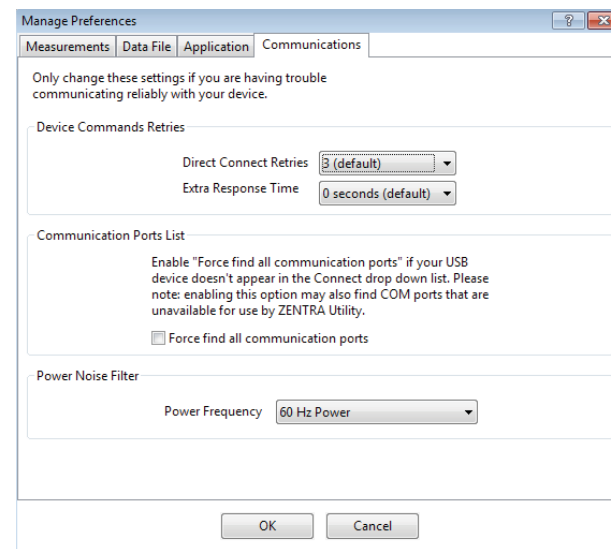

Figure 17 Communications tab
- Communications Tab (Figure 17):